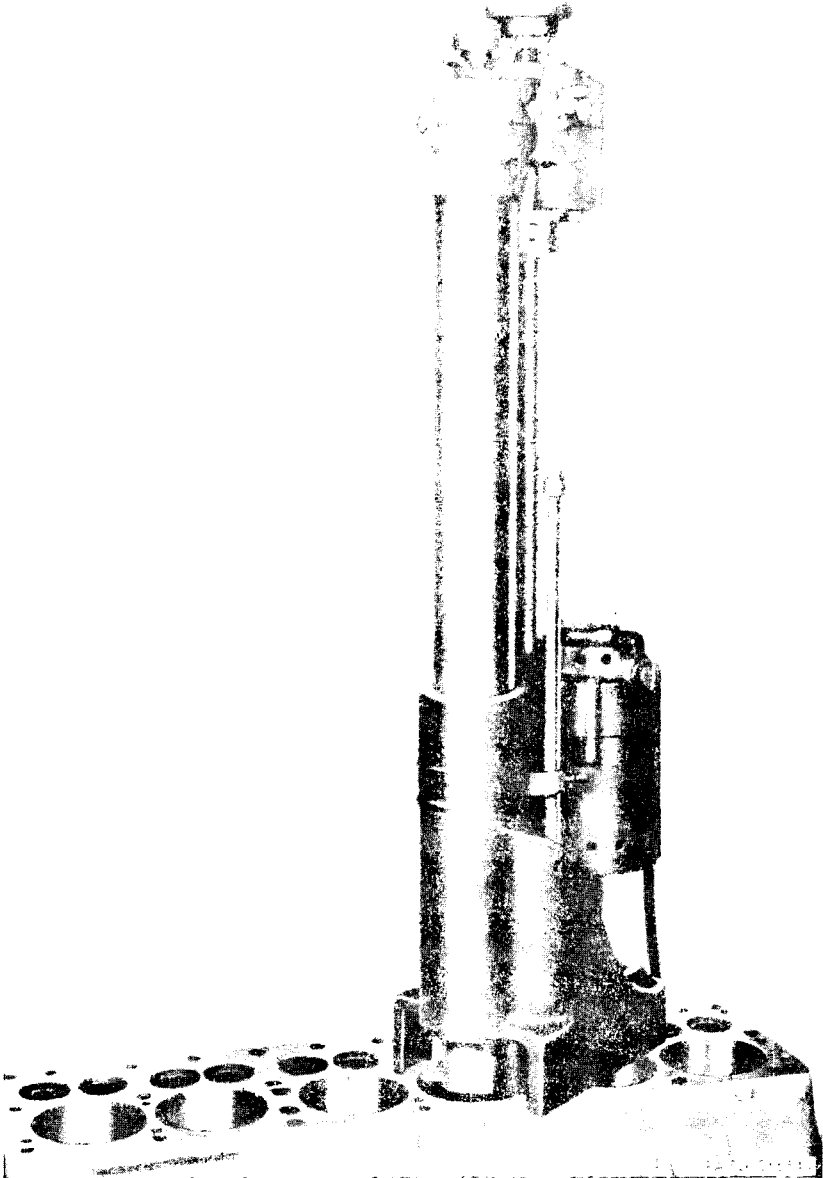

Figure 44. Reboring cylinders.
- (4) *Reboring cylinders* (fig. 44). If cylinder bore is out-of-round or taper exceeds wear limits in repair and rebuild standards (par. 62), or is scored, the bore should be reconditioned for an oversize piston. Cylinders may be rebored to 0.060-inch oversize, if required. If crankshaft has not been removed when reboring, the connecting rod journals